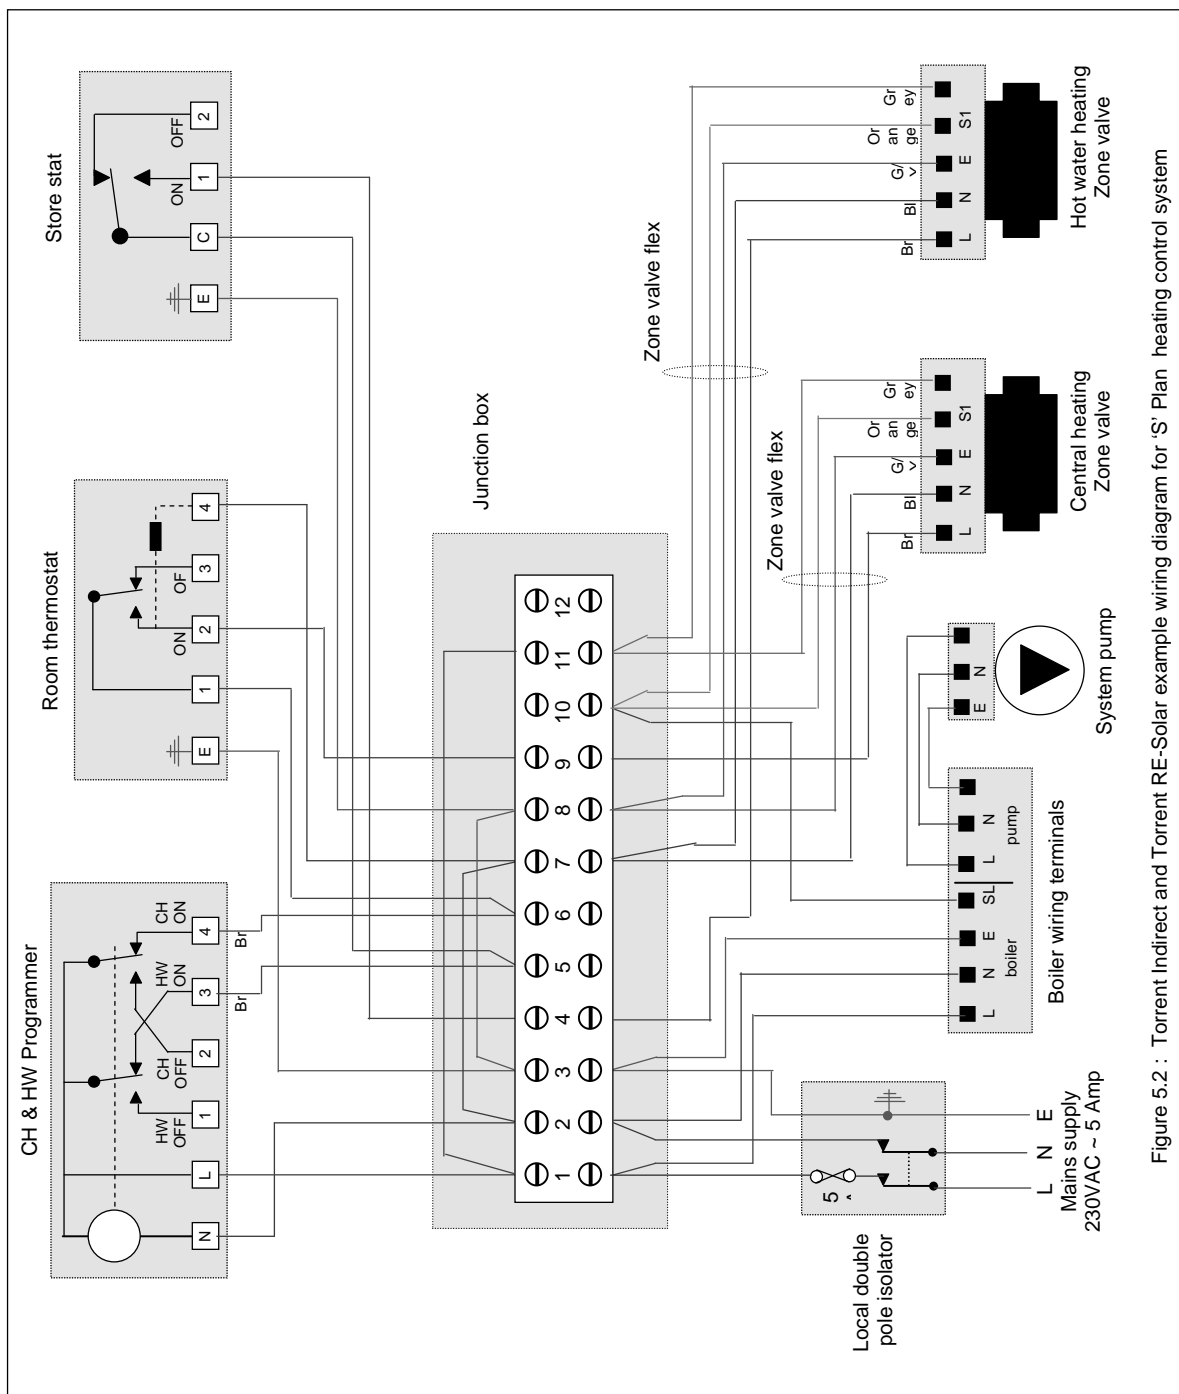

Figure 5.2 : Torrent Indirect and Torrent RE-Solar example wiring diagram for 'S' Plan heating control system
- Figure 5.2 : Example wiring diagram for a 'S' Plan heating system for the Torrent Indirect 'OV' and 'SP' models.